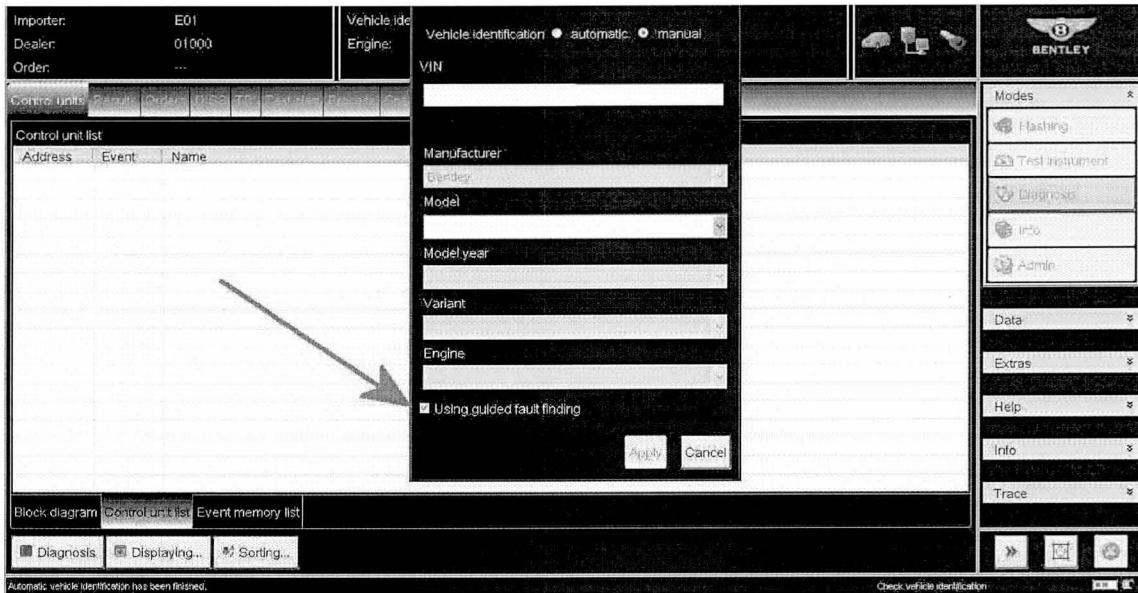

Figure 3
- Ensure the Using guided fault finding box is ticked (Figure 3) - follow all on screen prompts and allow the guided fault finding control module sweep to complete